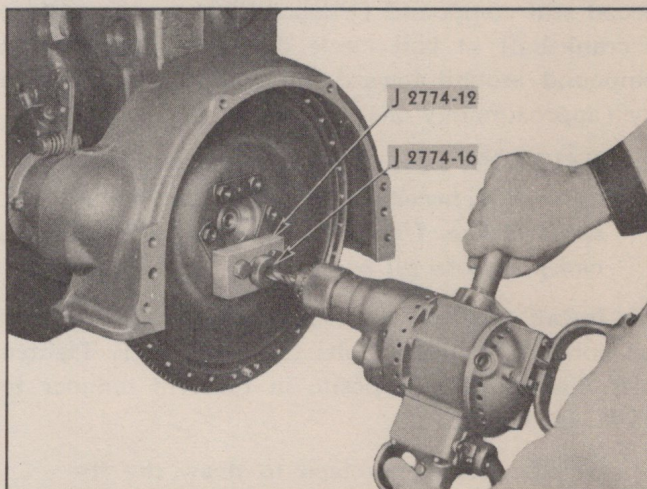

Fig. 233—Drilling Out Crankshaft Dowel Hole
4. Remove locating pin. See that rear main bearing cap is removed. Drill out dowel hole in crankshaft with a sharp $\frac{1}{2}$ " drill, using bushing to guide drill (Fig. 233). Proceed according to steps 8 and 9 under Replacement of Flywheel.